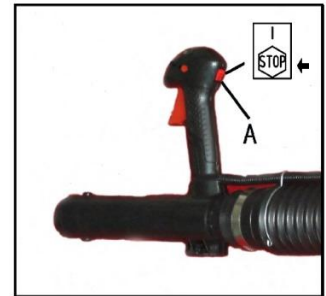

Fig.16
When it is necessary to stop blower engine immediately, PRESS the OFF "STOP" switch (A). (Fig.16)
For normal stopping, release trigger and allow engine to return to idle speed. Then PRESS the OFF "STOP" switch (A). (Fig.16)